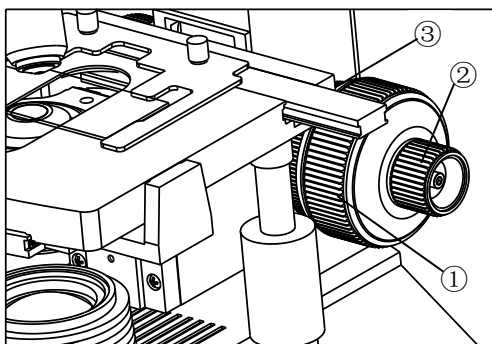

Fig.18
3.3.3 Focusing the specimen (Fig.18, 19)